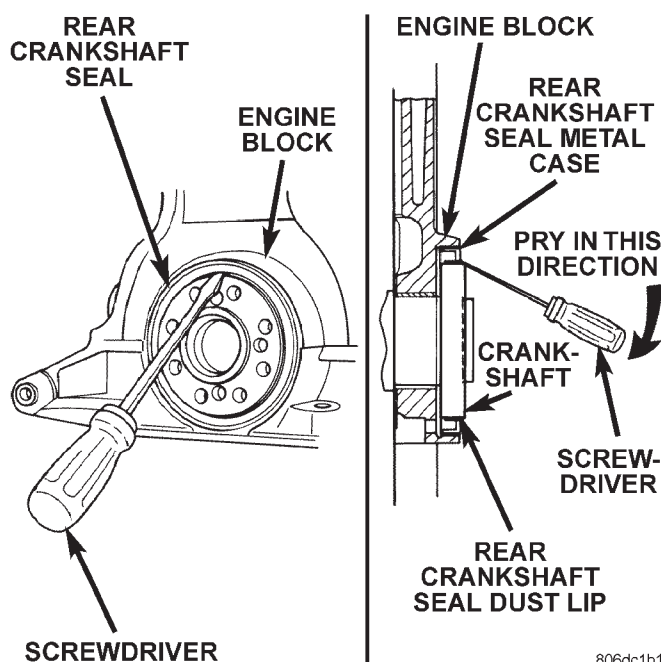

Fig. 74 Rear Crankshaft Oil Seal—Removal
(1) Insert a 3/16 flat bladed screwdriver between the dust lip and the metal case of the crankshaft seal. Angle the screwdriver (Fig. 74) through the dust lip against metal case of the seal. Pry out seal.